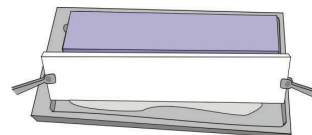

Fig. 6
10. Remove excess electrode buffer from the wicks by tilting the electrode wicks along one long edge and dab it on the PaperPool bottom (fig. 6).